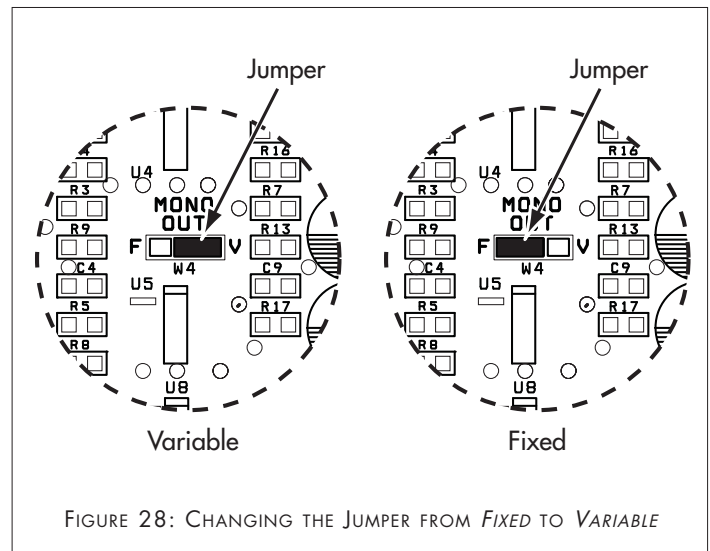

FIGURE 28: CHANGING THE JUMPER FROM *Fixed* TO *Variable*
4. Remove the jumper from the center pin and the "V" (variable) pin and re-insert it between the center pin and the "F" (fixed) pin (see *Figure 28*).